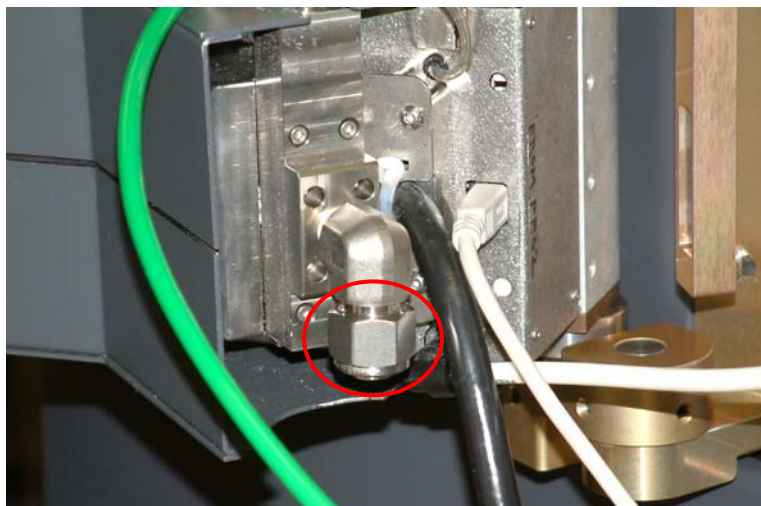

Figure 5 LN2 connection and pipe cap location (circled) on back of right-hand mounted FCO.
- 2 Using the adjustable wrench, remove the pipe cap from the FCO LN2 connection (circled below in Figure 5).